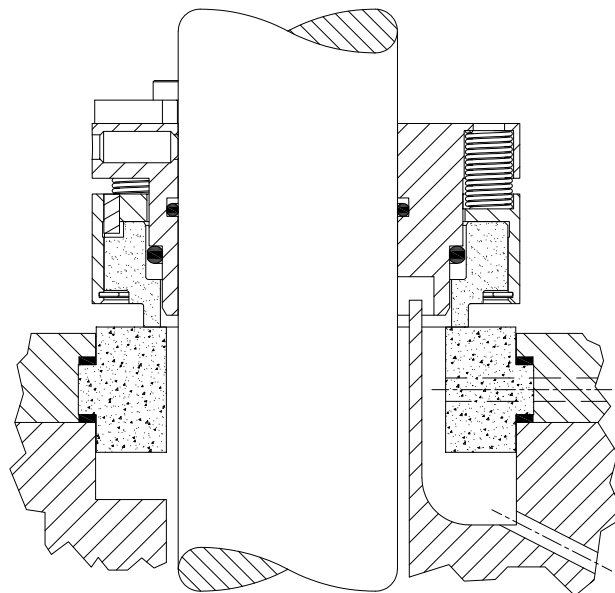

Figure 9: Reference seal layout; right side of image includes optional debris well.
7. Move the seal assembly towards the seal chamber until the faces of the mating ring and seal ring are in contact (Figure 9).